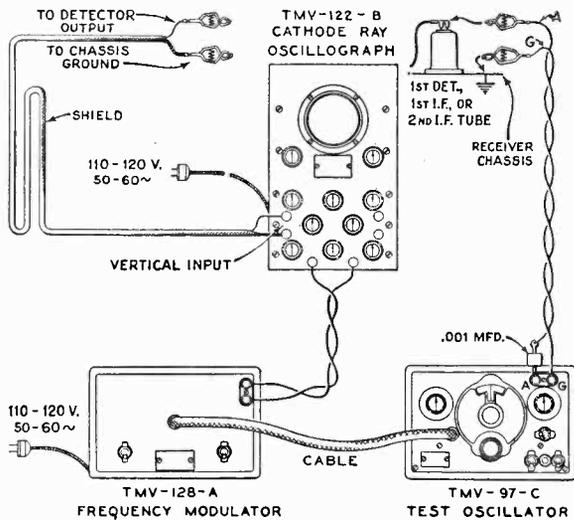
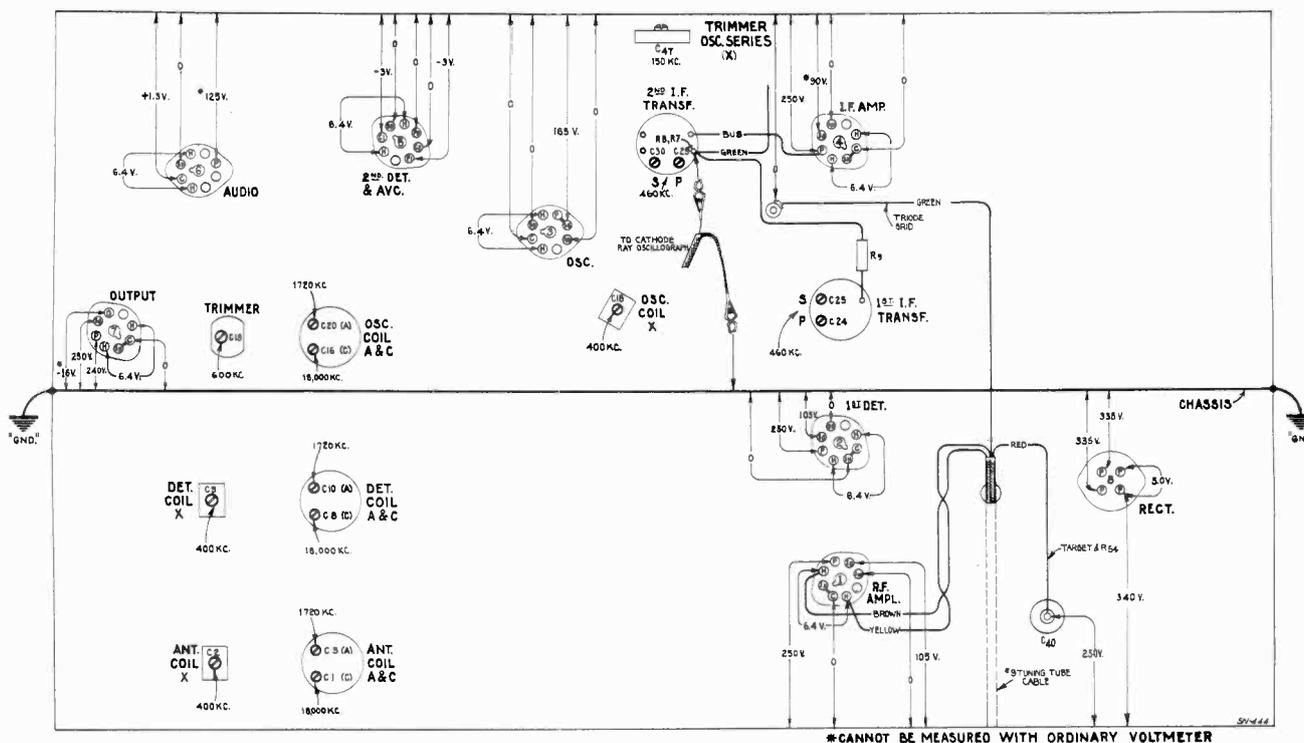

Figure 4—Alignment Apparatus Connections
Figure 5—Radiotron Socket Voltages
The four trimmers of the two i-f transformers are located as shown by Figure 5. Each must be aligned to a basic frequency of 460 kc. The last transformer must be aligned firstly and the first transformer aligned secondly. For such a process, it is necessary
to feed the output of the Full-Range Oscillator to the stages in their order of alignment, adjusting the trimmers of each transformer and observing the effect at the second detector output on the Cathode-Ray Oscillograph. The proper point of connection of the Oscillograph is with its vertical "high" input terminal attached to the junction of R-7, R8 and R9 as illustrated in Figure 5, and with the "0" or ground terminal to the chassis. The "Ext. Sync." terminals of the Oscillograph should be connected to the Frequency Modulator as shown by Figure 4. A .001 mfd. capacitor installed in series with the Oscillator "Ant." lead will prevent the voltages of the stage under alignment from becoming upset. The vertical "A" amplifier should be "On" for the ensuing adjustments and the gain control kept at its maximum position. For each adjustment, the Oscillator output need be regulated so that the image obtained on the Oscillograph screen will be of sufficient size as to be accurately observable. Proceed further as follows:
- Attach the output of the test Oscillator between the control grid cap of the RCA-6K7 i-f tube and chassis ground as shown typically by Figure 4. Tune the Oscillator to 460 kc. and set its modulation switch to "On". Regulate its output until the signal produces a wave pattern on the Oscillograph screen, adjusting the Oscillograph controls to give the desired number of cycles. Cause the image to stand still on the screen by manipulation of the frequency and synchronizing controls. Then carefully tune the two trimmers C-29 and C-30 of the second i-f transformer to produce maximum amplitude (vertical deflection) of the oscillographic image. Under this condition the transformer will be sharply resonated to 460 kc.
- The Frequency Modulator should then be placed in operation and interconnected with the Full-Range Oscillator by means of the special shielded patch cord. Figure 4 shows the proper arrangement. Set the Frequency Modulator sweep range switch to its "Lo" position and turn the Oscillator modulation switch to "Off". Change the timing control of the Oscillograph to "Ext." and place the range switch to its No. 2 position. Then carefully shift the tuning of the Oscillator so as to increase its frequency, until two distinct and similar waves appear on the Oscillograph
Locations of the various antenna, detector and oscillator coil trimmers are shown by Figure 5. The test Oscillator should be removed from connection with the i-f system and its output connected to the antenna-ground terminals of the receiver. No changes are to be made in the connections of the Oscillograph at the second detector. During the following adjustments, the Oscillator output should be regulated as often as is necessary to keep the oscillographic image as low as is practically observable. Adherence to such a procedure will obviate the broadness of tuning that would result from a.v.c. action on a stronger signal. Proceed with the adjustments as follows:
about maximum amplitude of output as shown by the wave on the Oscillograph. It will be necessary to have the timing control of the Oscillograph on "Int." for this operation. After each trimmer has been peaked, the Oscillograph timing control should be set to "Ext." and the Frequency Modulator placed into operation with its connections to the Oscillator and Oscillograph made in accordance with Figure 4. Turn the modulation switch of the Oscillator to "Off" and retune the Oscillator (increase frequency) until the forward and reverse waves show on the Oscillograph and become coincident at their highest points. Adjust the trimmers C-20, C-10 and C-3 again, setting each to the point which produces the best coincidence and maximum amplitude of the wave images.
The voltage values indicated from the Radiotron socket contacts to chassis on Figure 5 will serve to assist in the location of causes for faulty operation. Each value as specified should hold within 20% when the receiver is normally operative at its rated supply voltage. Variations in excess of this limit will usually be indicative of trouble in the basic circuits. The voltages given are actual operating values and do not allow for inaccuracies which may be caused by the loading effect of a voltmeter's internal resistance. This resistance should be duly considered for all readings. The amount of circuit resistance shunting the meter during measurement will determine the accuracy to be obtained, the error increasing as the meter resistance becomes comparable to or less than the circuit resistance. For the majority of readings, a meter having an internal resistance of 1,000-ohms-